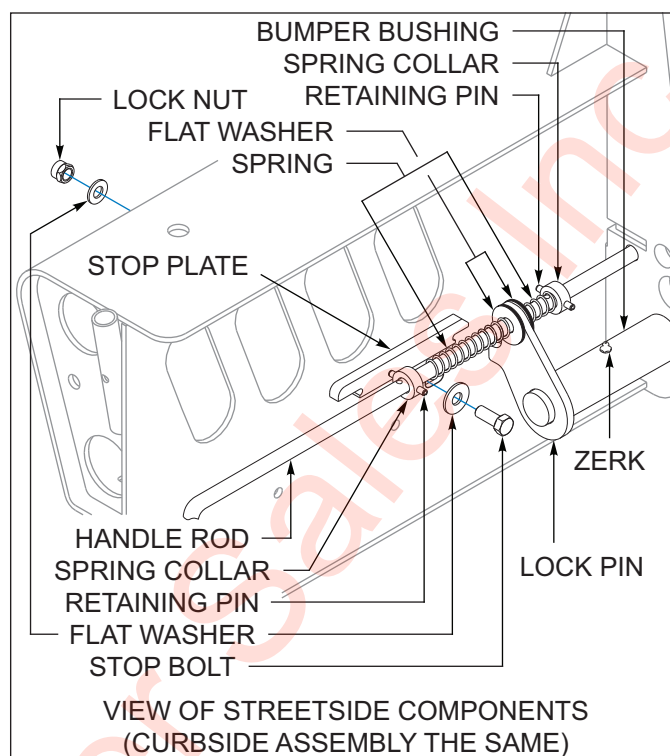

Figure 5-21: Spring Lock Components
2. On the streetside trailer rear bumper, push in on the twisting spring lock pin handle until the spring retaining pin and collar clears the inside bumper stop plate notch, slightly twist the handle towards the bumper. *See Figure 5-21.*
1. Install one grease zerk each into the curbside and streetside bumper bushings. ***See Figure 5-21 on Page 5-34.***
5. Install one spring collar on the long end of the handle rod and move it towards the bend. With the handle up, align the streetside left-hand spring collar and drive in one retaining pin. ***See Figure 5-21 on Page 5-34.***
6. Install one spring and one flat washer onto the handle rod. ***See Figure 5-21 on Page 5-34.***